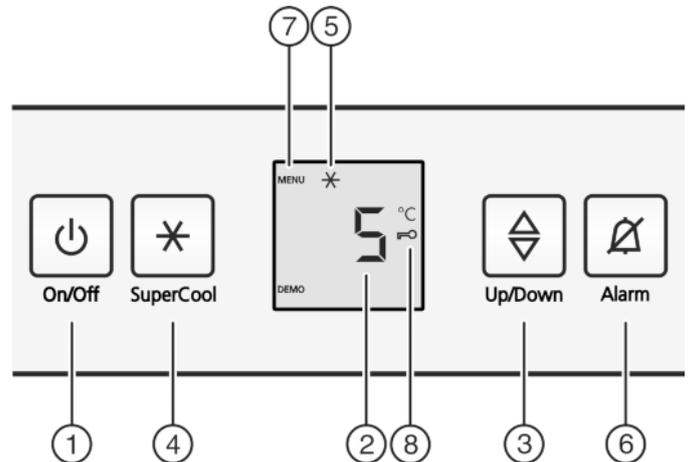

Fig. 2
- ▶ Press the On/Off button Fig. 2 (1).
- ▶ Press the SuperCool button Fig. 2 (4) for about 5 seconds.
- ▷ The Menu symbol is shown on the display, *Fig. 2 (7)*.
- ▶ Confirm briefly with the SuperCool button *Fig. 2 (4)*.
- ▷ The child lock symbol, *Fig. 2 (8)*, lights up on the display.
- ▶ Briefly press the On/Off button *Fig. 2 (1)*.
- ▶ Press alarm button *Fig. 2 (6)*.
- ▶ Call up temperature function: press the setting button *Fig. 2 (3)*.
- ▶ Change the temperature in 1 °C steps: Press the setting button *Fig. 2 (3)* until the required temperature is indicated in the temperature display.
- ▶ Briefly press SuperCool button *Fig. 2 (4)*.
- ▷ The SuperCool symbol *Fig. 2 (5)* lights up in the display.
- ▷ The SuperCool symbol *Fig. 2 (5)* goes out in the display.